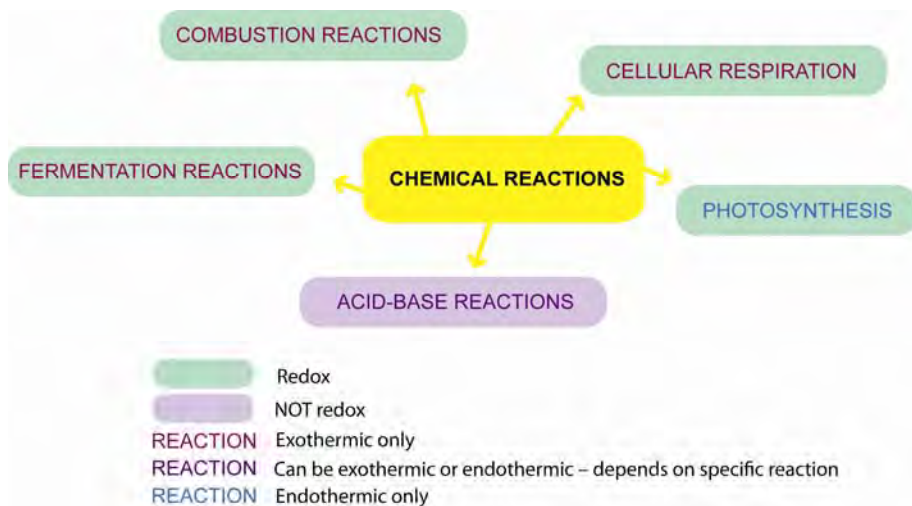
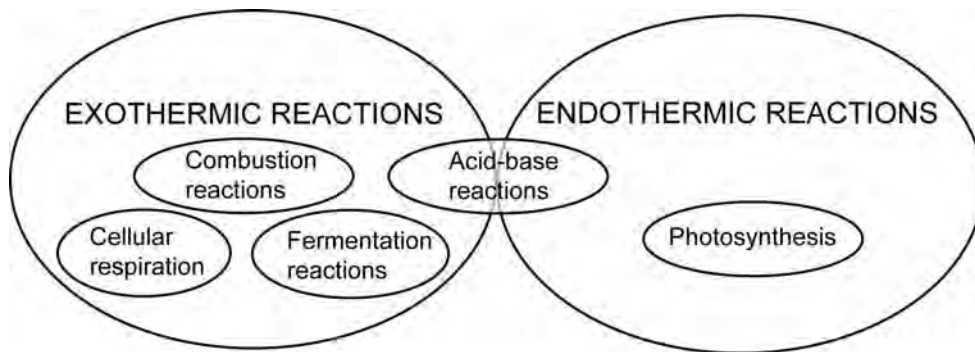

Figure 1 One representation of the classes of chemical reactions outlined in the STELR Chemistry Program, with a key
Figure 2 One possible Venn diagram
Figure 1 on the next page may be a useful flow chart for showing the information in the student booklet in a more visual way. However, it is just one way in which the information may be represented. The teacher may choose to extend this chart to include other classes of reaction with which the students are familiar. Figure 2 shows more basic information in the form of a Venn diagram. This does not refer to redox reactions.
- Figure 2 shows one possible solution.